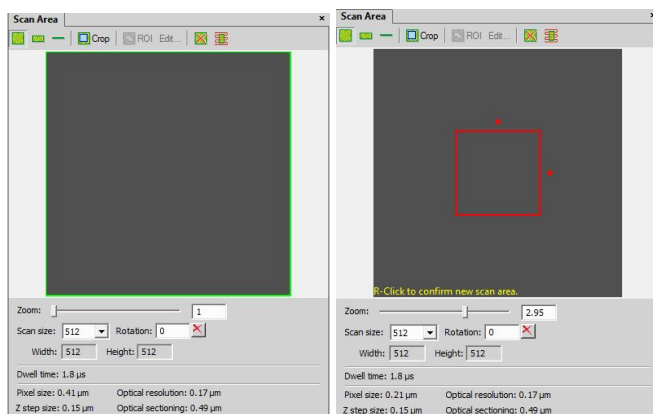

Figure 25
5.8.6 Scan Area, Zoom and Resolution Improvements (Figure 25)